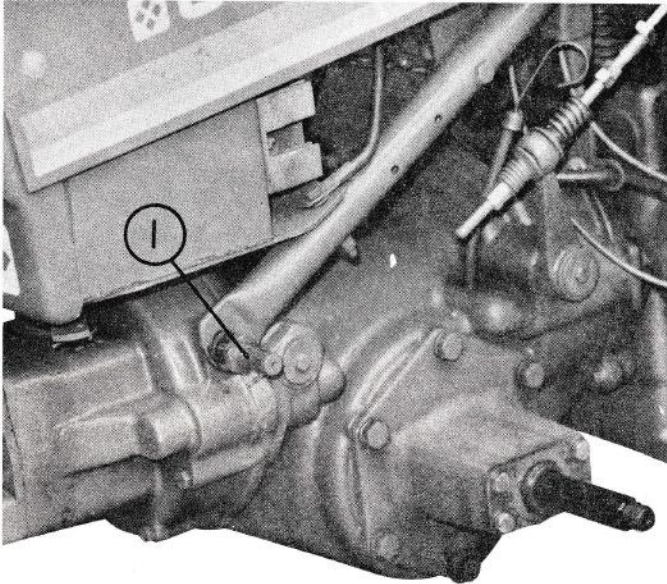

Fig. 9
3. Remove the bolt or hood stud securing the tube support to the advance casting and replace with the pivot stud. See figs. 9 & 10.